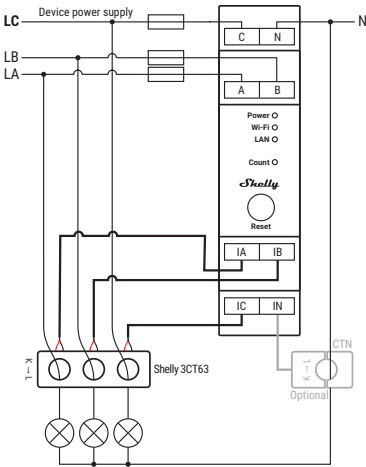

Fig. 1: Three-phase setup wiring diagram
1. Connect the LA, LB, and LC phase wires to the corresponding Device A, B, and C phase input terminals as shown in Fig. 1.
🔧 Make sure that each phase wire goes through the correct aperture by strictly following the wiring diagram (Fig. 1). For example, phase wire LA must pass through the coil connected to the Device IA input terminal.